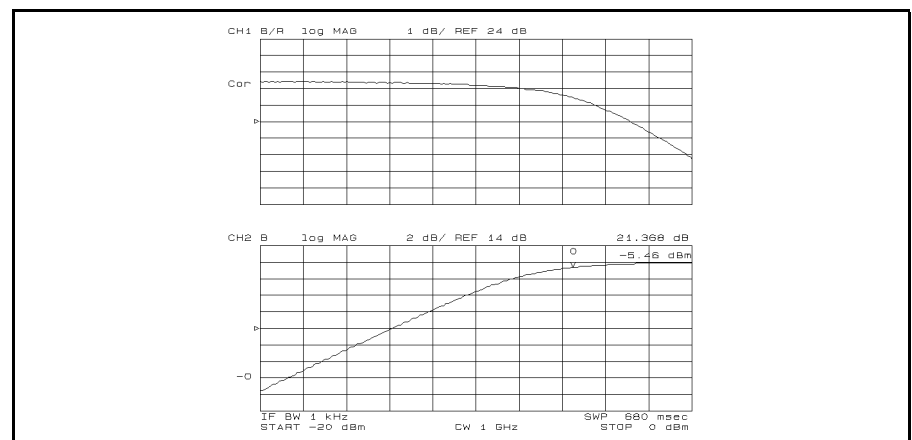

Figure 5-24.
7. Press **[Display]** **DUAL CHAN on OFF** to **ON off** to display both channel (see Figure 5-24). Note that you must subtract 3 dB from the input value readout. This is necessary because the input signal is attenuated by the power splitter that is between the RF OUT and the DUT.